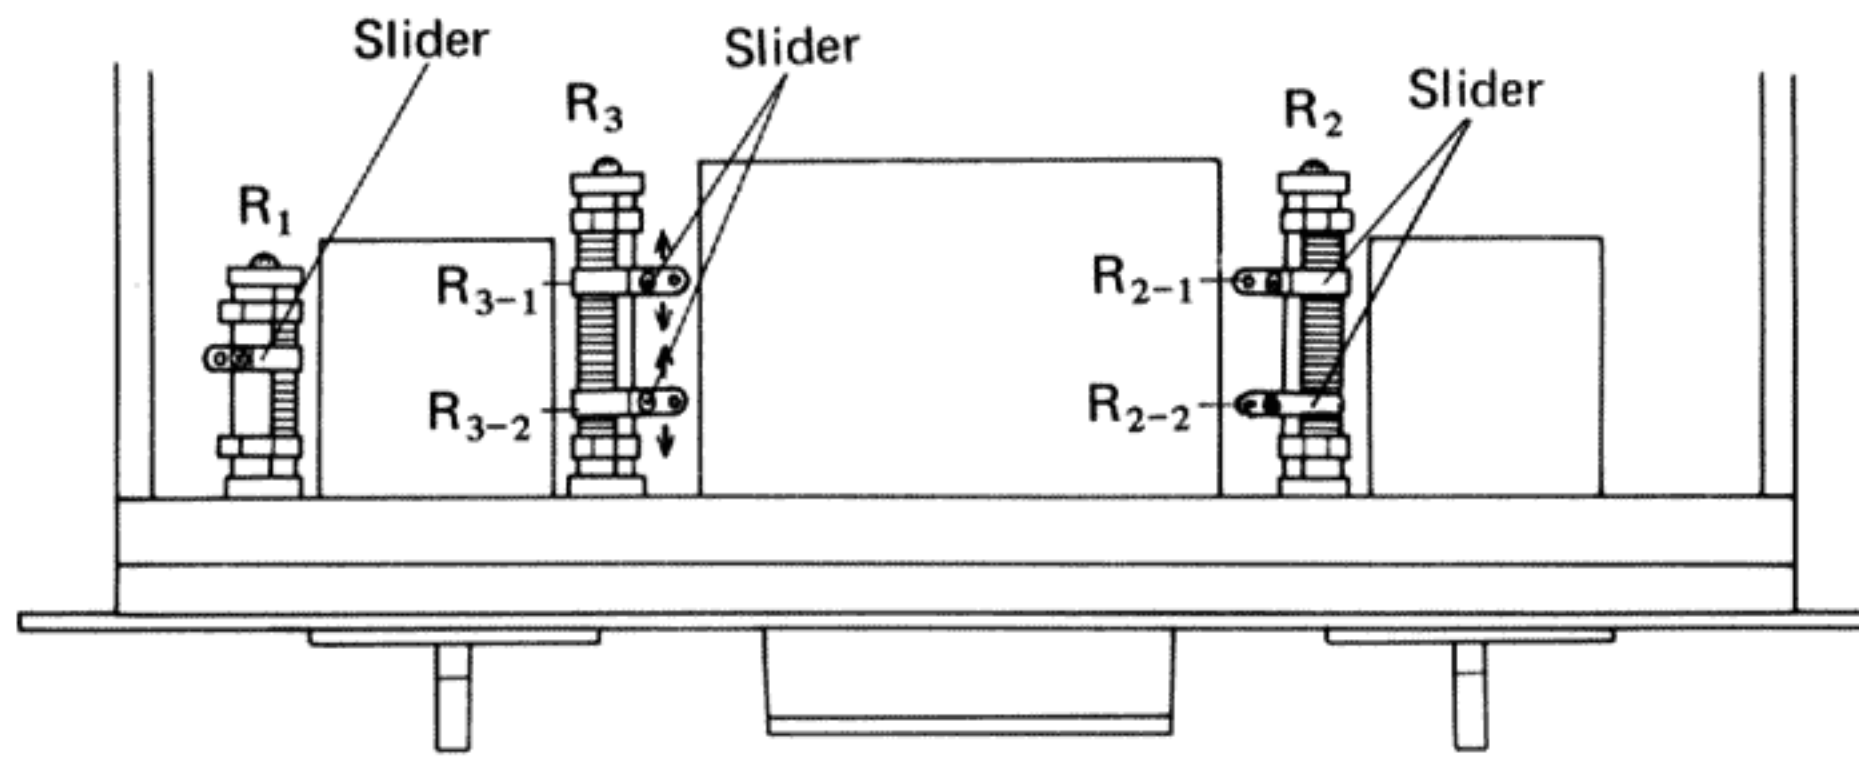

Fig. 25
2. Adjust the slider (R_{3-1}) of sliding resistor R_3 shown in Fig. 25 so that the measured value becomes 70 ~ 80g (torque = 210g.cm ~ 240g.cm).
4. Adjust the slider (R_{2-1}) of sliding resistor R_2 in Fig. 25 so that the measured value becomes 70 ~ 80g (torque = 210g.cm ~ 240g.cm).
2. Adjust the slider (R_{2-2}) of sliding resistor R_2 shown in Fig. 25 so that the measured value becomes 125 ~ 135g (torque = 375g.cm ~ 405g.cm).
4. Adjust the slider (R_{3-2}) of sliding resistor R_3 shown in Fig. 25 so that the measured value becomes 140 ~ 160g (torque = 420g.cm ~ 480g.cm).
2. Adjust the slider of sliding resistor R_1 shown in Fig. 25 so that the measured value becomes 35 ~ 45g (torque = 105g.cm ~ 135g.cm).